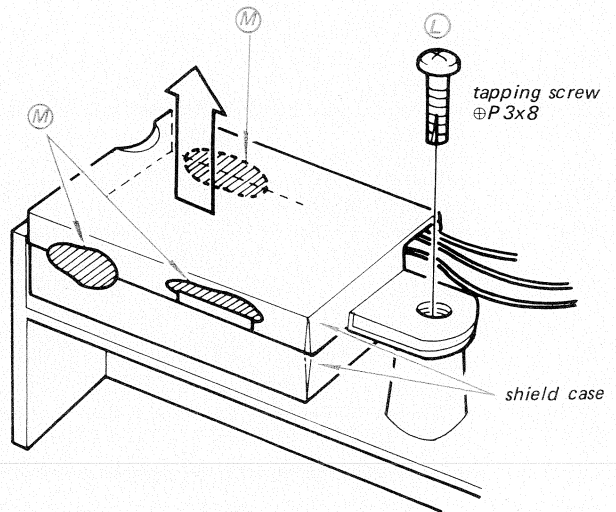

Fig. 2-9.
- Remove the screw labeled (L) in Fig. 2-9.
- Unsolder the three soldered portions labeled (M) on the shield case.